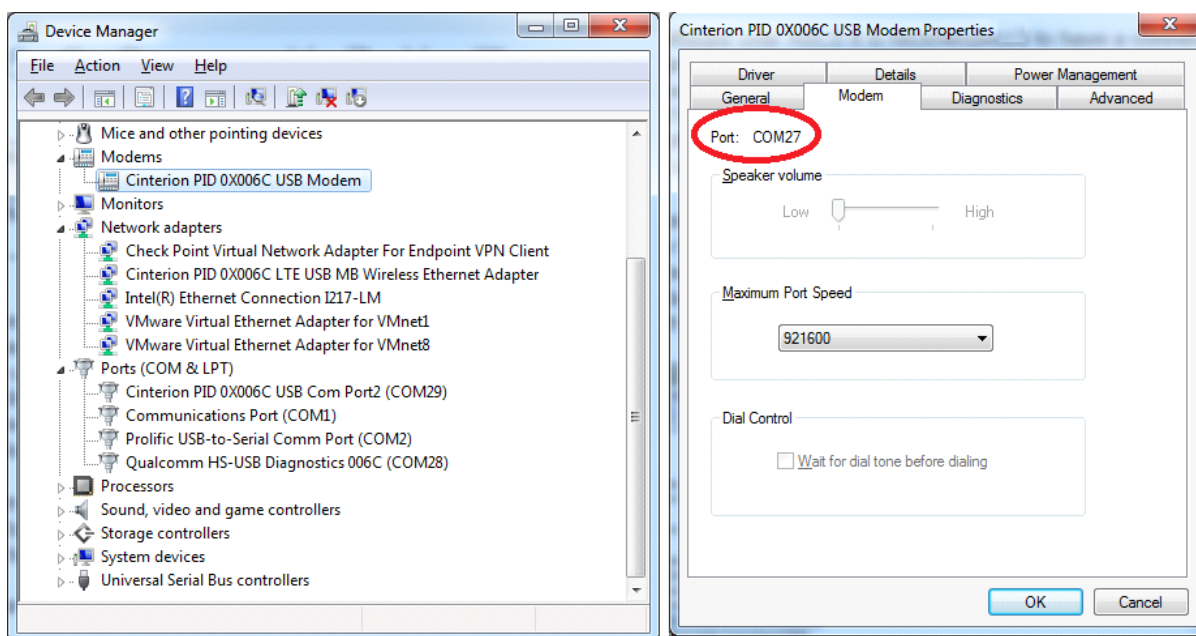

Figure 2: Example: Device Manager with sample port COM27 assigned to USB-ACM port
- on Windows systems COMx for the ASC0 interface (see Figure 2; sample port COM27),